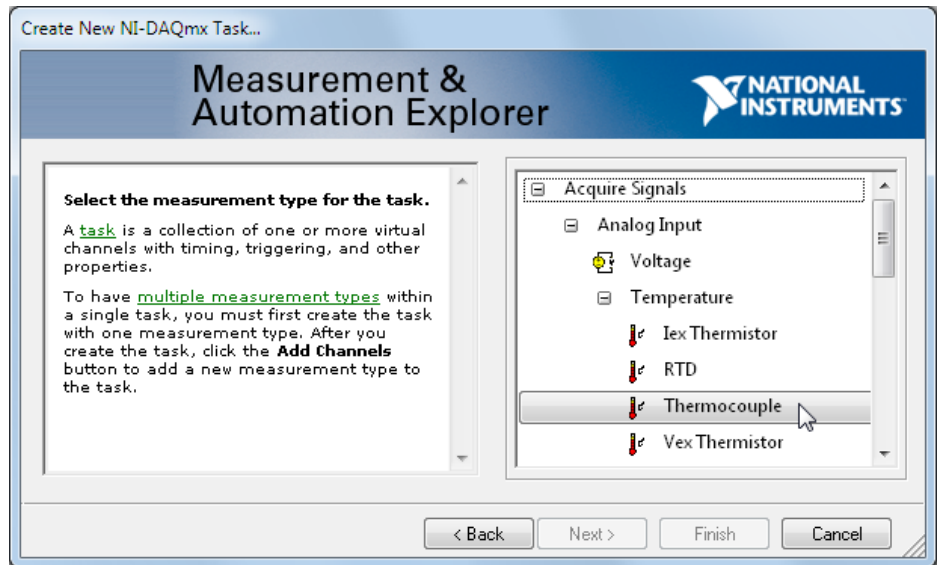

Figure 8. NI-DAQmx makes it easy to correctly configure acquisition applications since all configuration settings are grouped by acquisition type.
- a. Select **Acquire Signals » Analog Input » Temperature » Thermocouple** as shown in Figure 8.